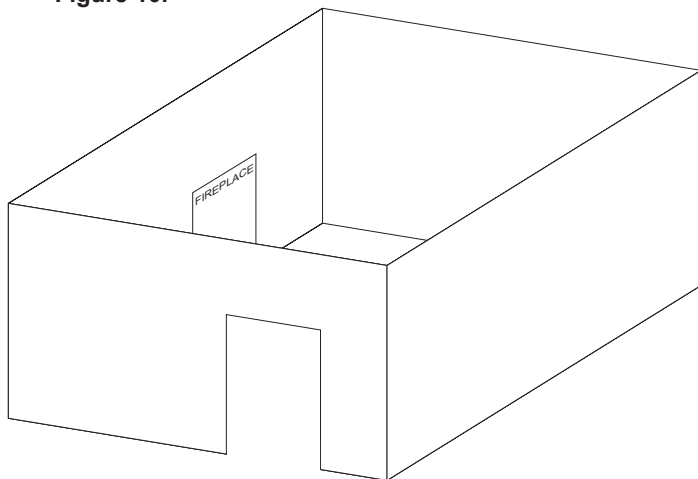

Figure 10
- With walls on all sides, but with no overhead cover. **See Figure 10.**